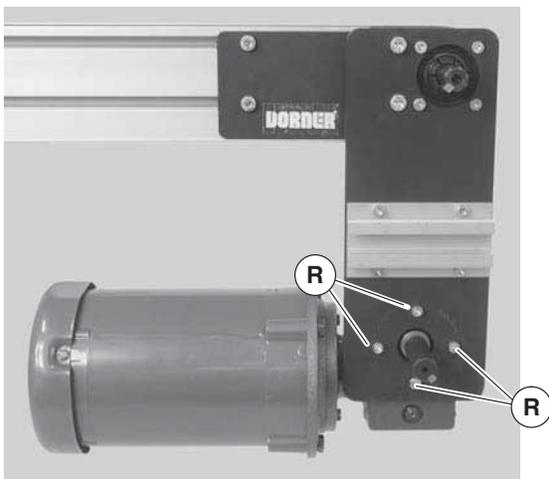

Figure 5
2. If required, change gearmotor position by removing four (4) screws (Figure 5, item R). Rotate gearmotor to other position and replace screws (R). Tighten to 110 in-lb (12 Nm).